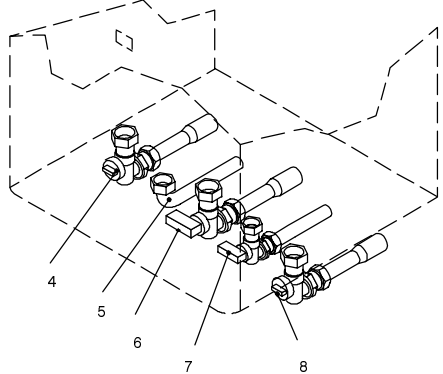

fig. 2.10
- 2 Shut off the gas supply cock (6) and the cocks for the water circuits (4, 7 and 8) fitted under the boiler (fig. 2.10);
shut off the taps positioned under the boiler (fig. 2.10 in page 5) and call an Authorised Service Centre Engineer.